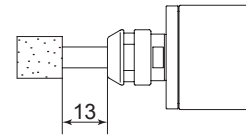

Fig. 23
- ① The proper surface speed for general grindstones is 10 - 30m / s.
- ② Do not exceed 13mm of overhang for mounted grindstones as shown in Fig. 23. If the overhang must exceed 13mm, reduce the Motor Speed in accordance with Table. 4.
- ③ Dress the grindstone prior to use.
- ④ Do not use cutting tools with bent or broken shanks, cracks or excessive run-out.
- ⑤ For grinding, the maximum depth of cut should not exceed 0.01mm radially or axially. Reciprocate the tool several times after each pass to eliminate tool pressure.
- ⑥ Always operate cutting tools within the allowable recommended speed of the cutting tools. Use of a cutting tool outside of the allowable speed of the cutting tools could cause damage to the spindle and injury to the operator.
- ⑦ Keep the cutting tool shank and collet clean. If contaminants are left in the collet or collet nut, excessive run-out will cause damage to the cutting tool and or spindle.
- ⑧ Do not strike or disassemble the spindle.
- ⑨ Please minimize the tool overhang amount to maintaining high accuracy. 13mm is the maximum amount of overhang to maintain high accuracy and safety.